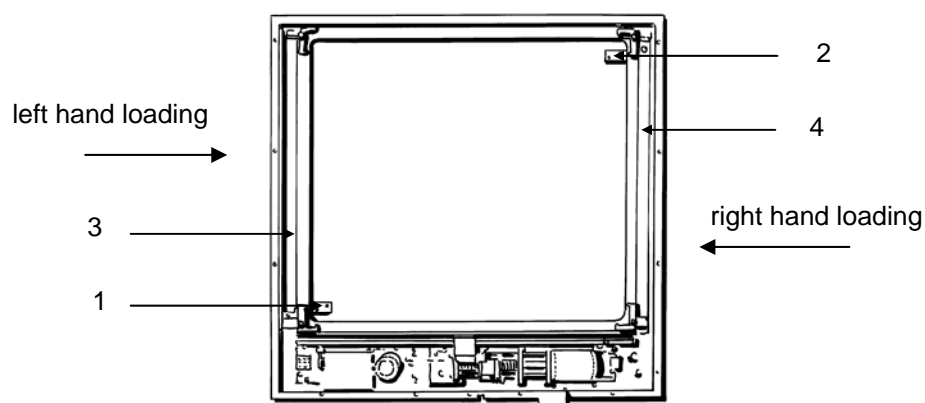

Fig. 2-3 Bucky
- Remove the cassette tray. From the bottom side of the Bucky unscrew the end stop (Figure 2-3, item 1) which prevents the cassette tray from being completely pulled out and the spring (Figure 2-3, item 3) which grounds the cassette tray and screw both parts again into the diagonal located holes (Figure 2-3, item 2 for the end stop and Figure 2-3, item 4 for the spring).